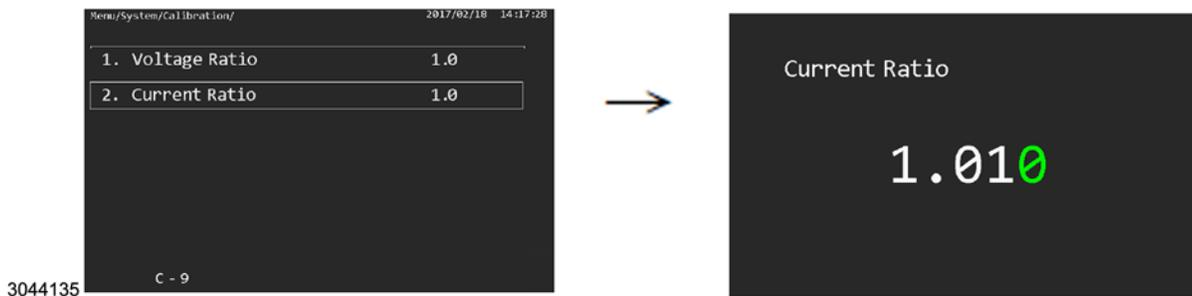

FIGURE 4-4. CURRENT RATIO CALIBRATION
7. After entering the password, the touchscreen shows selections for **1. Voltage Ratio** and **2. Current Ratio**. Select **2. Current Ratio** using either the touch screen or **SELECT** encoder and **ENTER** switch (see Figure 4-4). The previous current ratio is displayed.